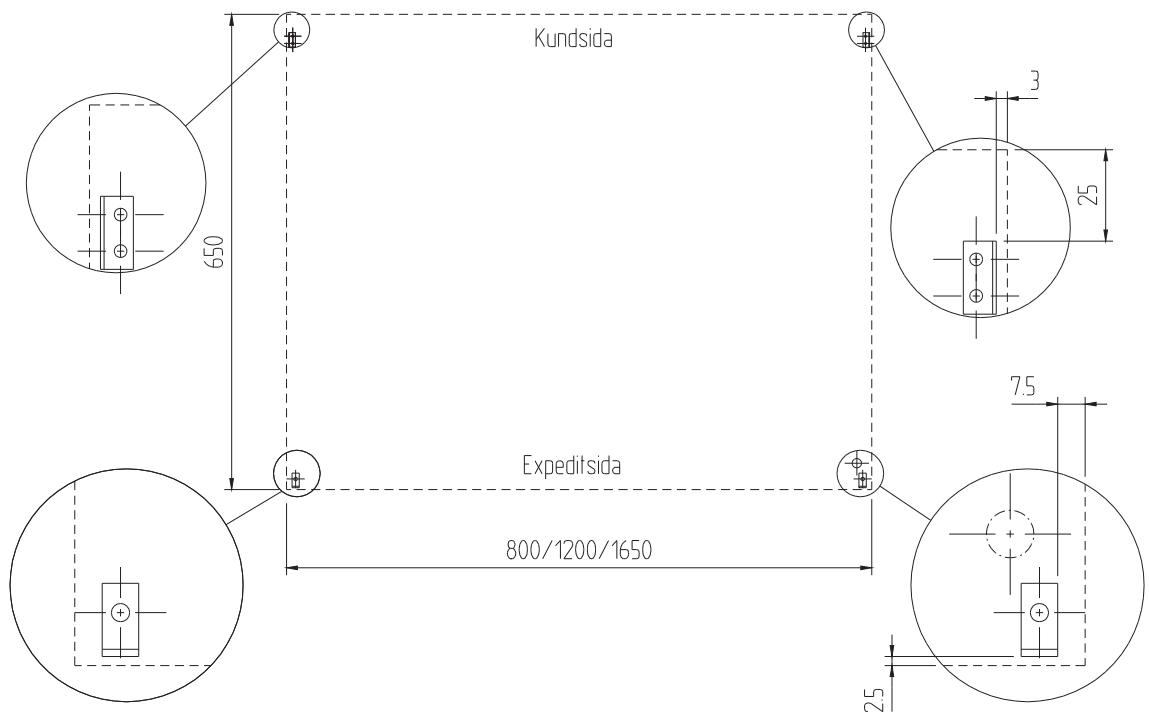

Figure 4.
- Attach the angle brackets by following the measurements in fig.4.
- Follow fig.4 to drill holes in the lower unit, with the exception of holes A and B, where the follow applies: Hole A will not be used since the inter-connecting counters only have one end panel. Hole B is only to be used if the inter-connecting counters has lighting.